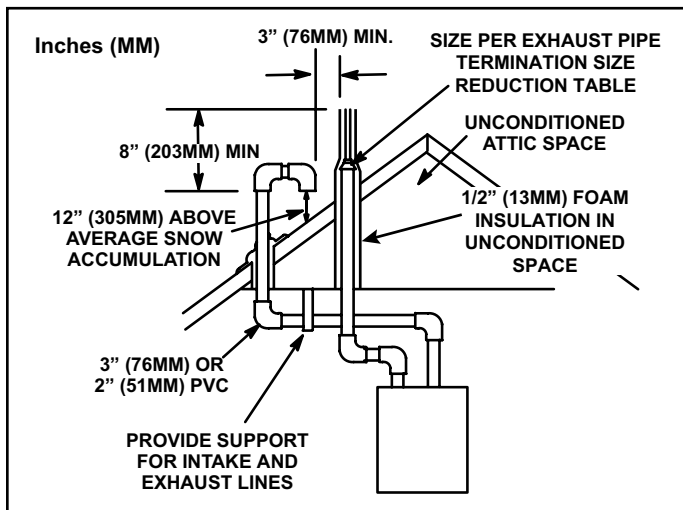

Figure 30. Direct Vent Roof Termination Kit (15F75 or 44J41)
Intake and exhaust pipes may be routed either horizontally through an outside wall or vertically through the roof. In attic or closet installations, vertical termination through the roof is preferred. Figure 30 through Figure 38 show typical terminations.
3. On roof terminations, the intake piping should terminate straight down using two 90° elbows (See Figure 30).